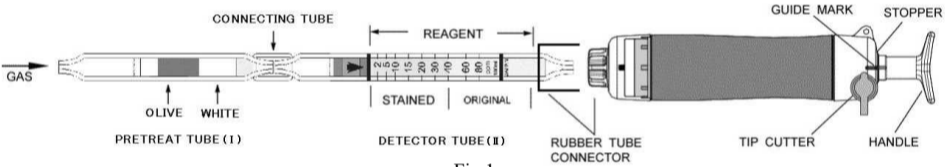

Fig.1
- ① Break both ends of the pretreat tube (I) and detector tube (II), and connect each end of the pretreat tube and detector tube with connecting tube as shown in Fig.1.
- ② Insert the detector tube into the aspirating pump securely as shown in Fig.1. (Arrow mark shall point to the pump.)
- ③ Align the guide marks on the handle and stopper of the aspirating pump.
- ④ Pull the pump handle at a full stroke until it locks and wait for 1.5 minutes or until the completion of sampling is confirmed with the flow indicator of the pump. (See descriptions about the flow indicator in the instruction manual of the pump.)
- ⑤ On completion of sampling, read the scale at the maximum point of the stained layer.